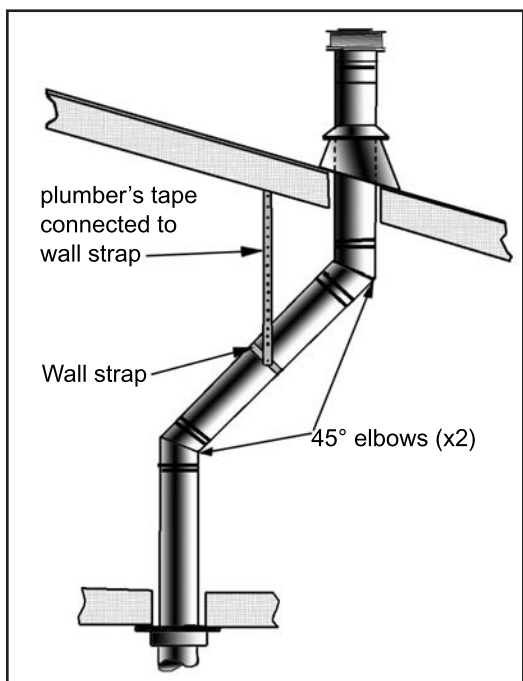

Figure 32: Use of Wall Straps.
- If an offset is necessary in the attic to avoid obstructions, it is important to support the vent pipe every 3 ft (91 cm), to avoid excessive stress on the elbows, and possible separation. Wall straps are available for this purpose (see Figure 32).